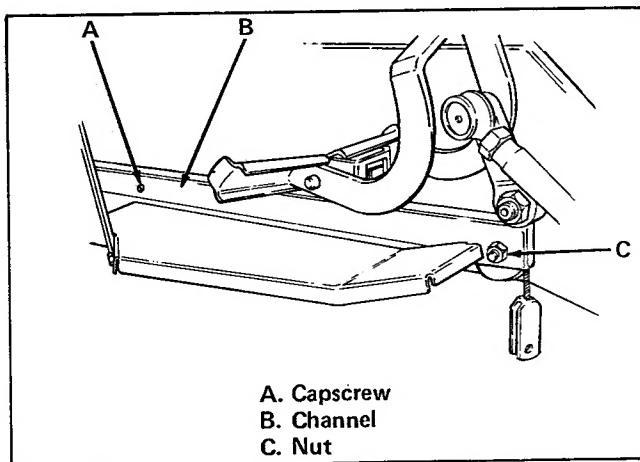

Figure 40. Lift Cable Replacement
1. Remove capscrew (item A, figure 40) from cover channel (item B). Loosen nut (item C). Pull cover off tractor.